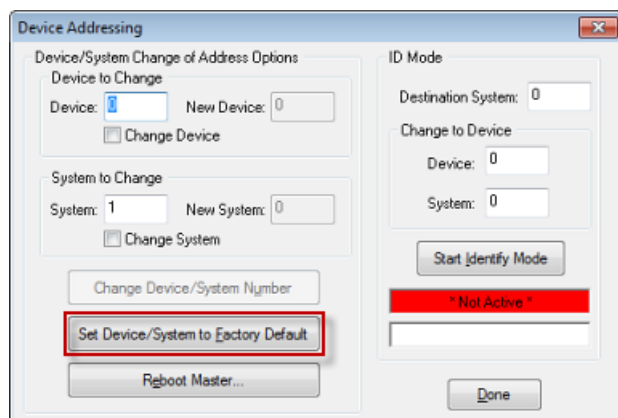

FIG. 15 Device Addressing dialog
2. Click the **Set Device/System to Factory Default** button (FIG. 15):